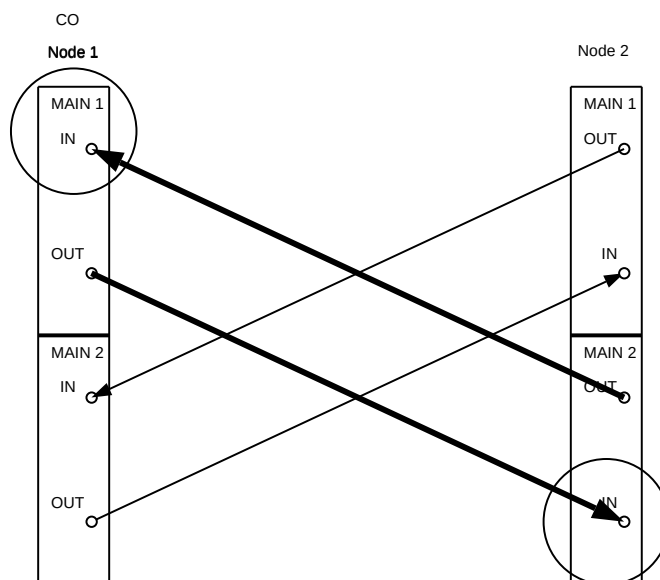

Figure 16. DDM-2000 OC-3 Drop or Add/Drop Network to Ring Upgrade
1 **MAIN 2(P) IN**. (See Figure 16.)
2. (See Figure 16.)